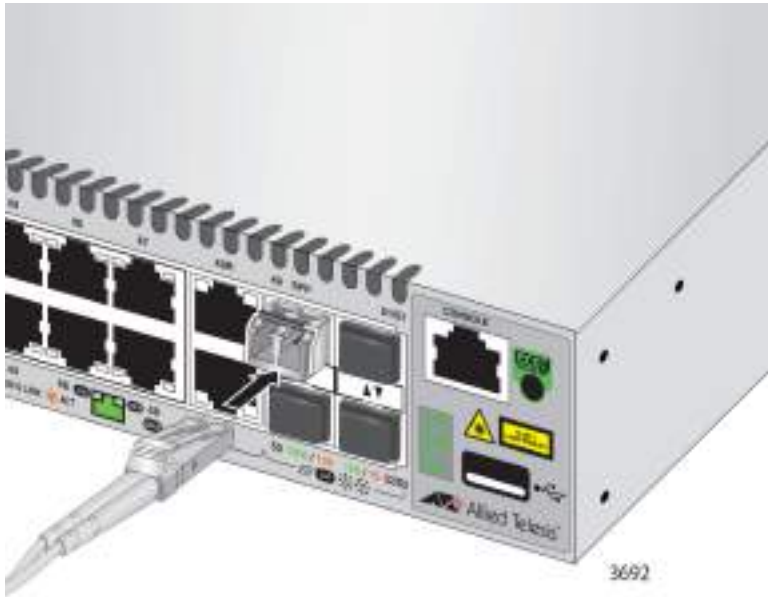

Figure 44. Connecting a Fiber Optic Cable to an SFP Transceiver
7. Connect the fiber optic cable to the transceiver, as shown in Figure 44. The connector on the cable should fit snugly into the port, and the tab should lock the connector into place.